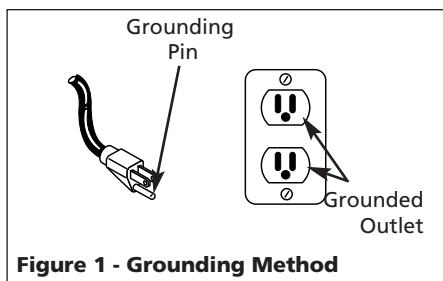

Figure 1 - Grounding Method
- 1. This product is for use on a nominal 120 volt circuit and has a grounding plug that looks like the plug illustrated in Fig. 1. Make sure the product is connected to an outlet having the same configuration as the plug. This product must be grounded. In the event of an electrical short circuit, grounding reduces risk of electrical shock by providing an escape wire for electric current. This product is equipped with a cord having a grounding wire with an appropriate grounding plug. Plug must be plugged into an outlet that is properly installed and grounded in accordance with all local codes and ordinances.